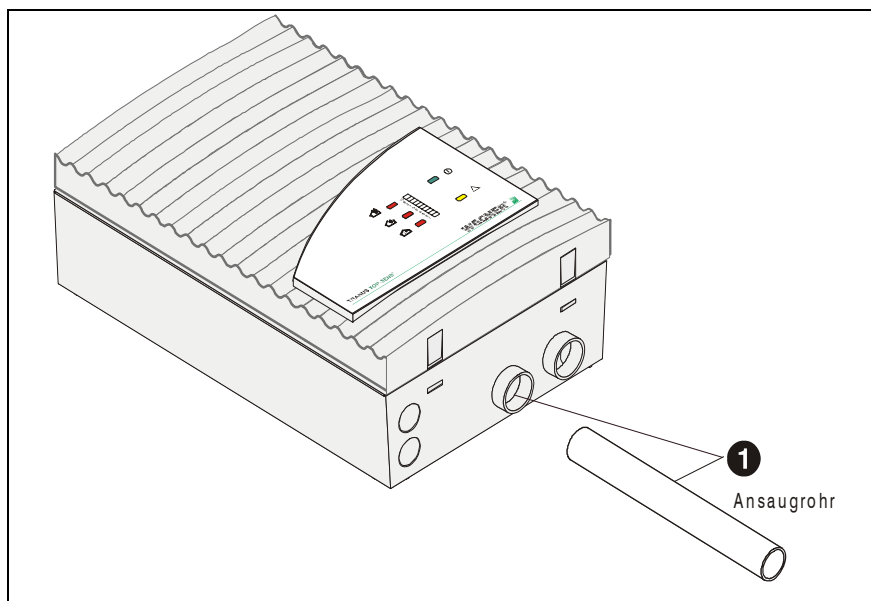

Fig. 5.7: Connecting the suction pipe to the TITANUS TOP · SENS® smoke extraction system
- 1 To connect the suction pipe with the TITANUS TOP · SENS®, plug it into the pipe connection provided for this (see Fig. 5.7).